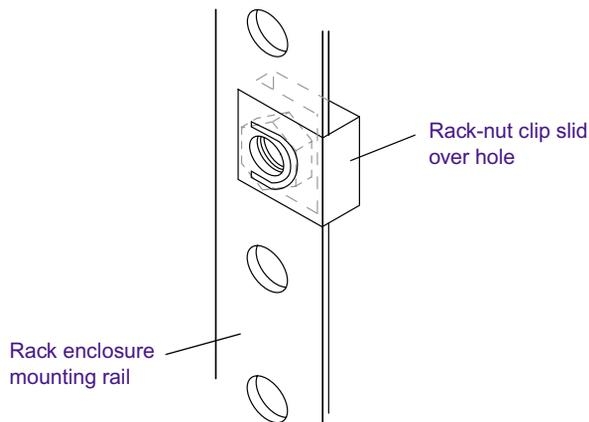

Figure 46 Attaching Rack Nuts onto the Rack Enclosure
2. From the inside of the enclosure rail, slide the rack-nut clip over the hole you want to use (see Figure 46). If your rack enclosure has threaded holes, continue with step 4.